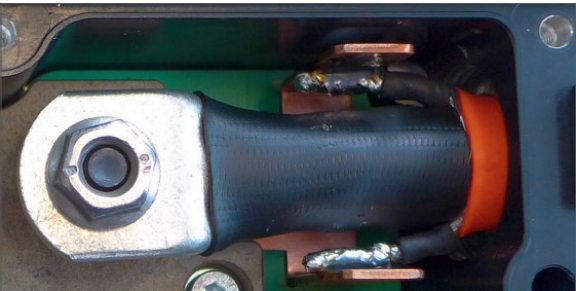

Fig. 8-24: HV+ power cable, strands of braided shield soldered to the feedthrough
- ▶ The braided shield is connected to an isolated feedthrough for continuity via solder. The braided shield is divided and twisted into two strands of equal length prior to soldering to the feedthrough (Fig. 8-24).